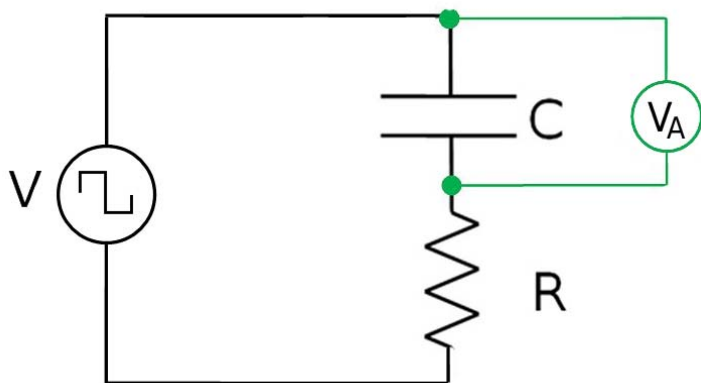

Figure 2: RC Circuit Diagram
1. Construct the circuit shown in Figure 2. The voltage source is Signal Generator #1 on the 850 Universal Interface.  $C = 3900 \text{ pF}$  and  $R = 47 \text{ k}\Omega$ .